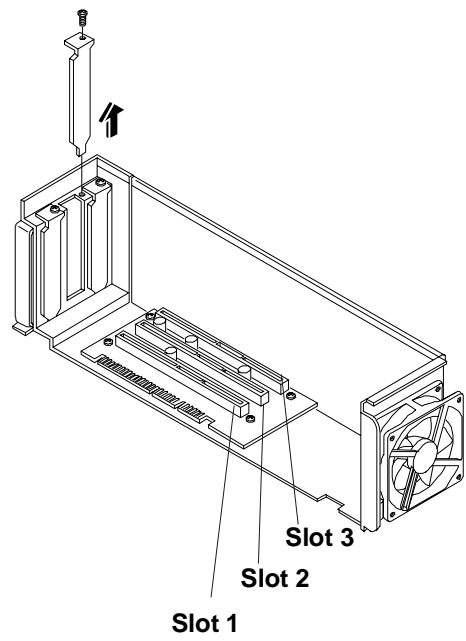

Figure 5-4. Removing the Slot Cover
- a. Use a Phillips screwdriver to remove the slot cover. See Figure 5-4.